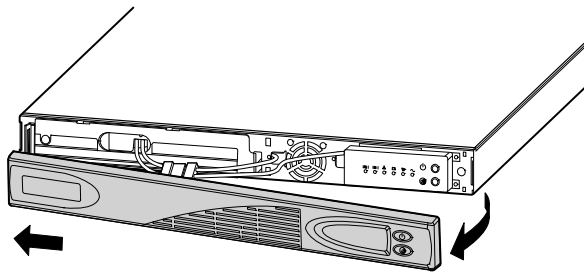

Figure 25. Removing the UPS Front Cover
1. Pull the right side of the UPS front cover to release the snaps at the right and middle of the cover (see Figure 25). Remove the UPS front cover from the left side.